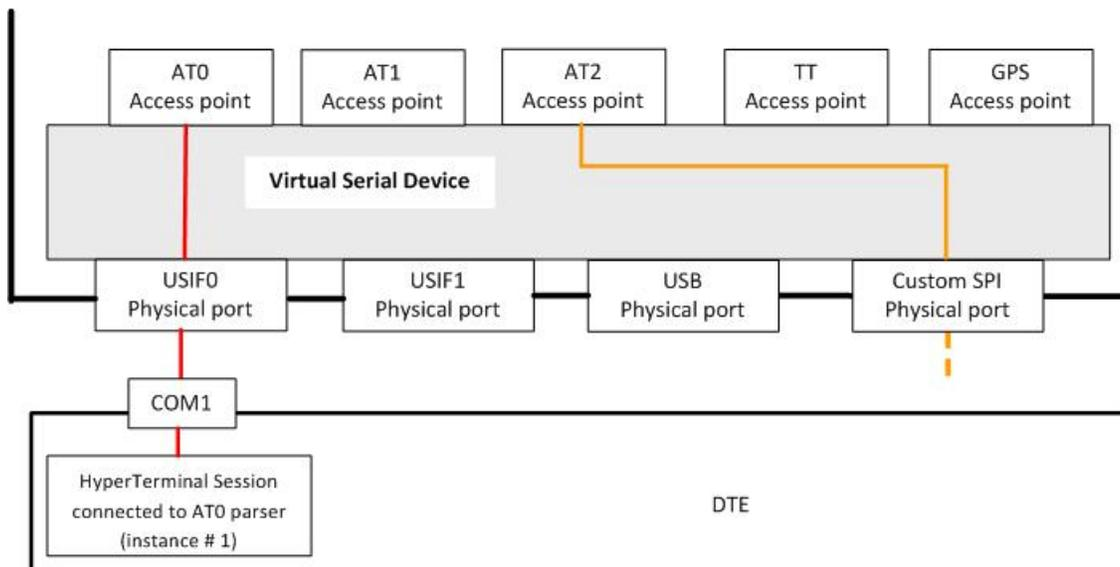
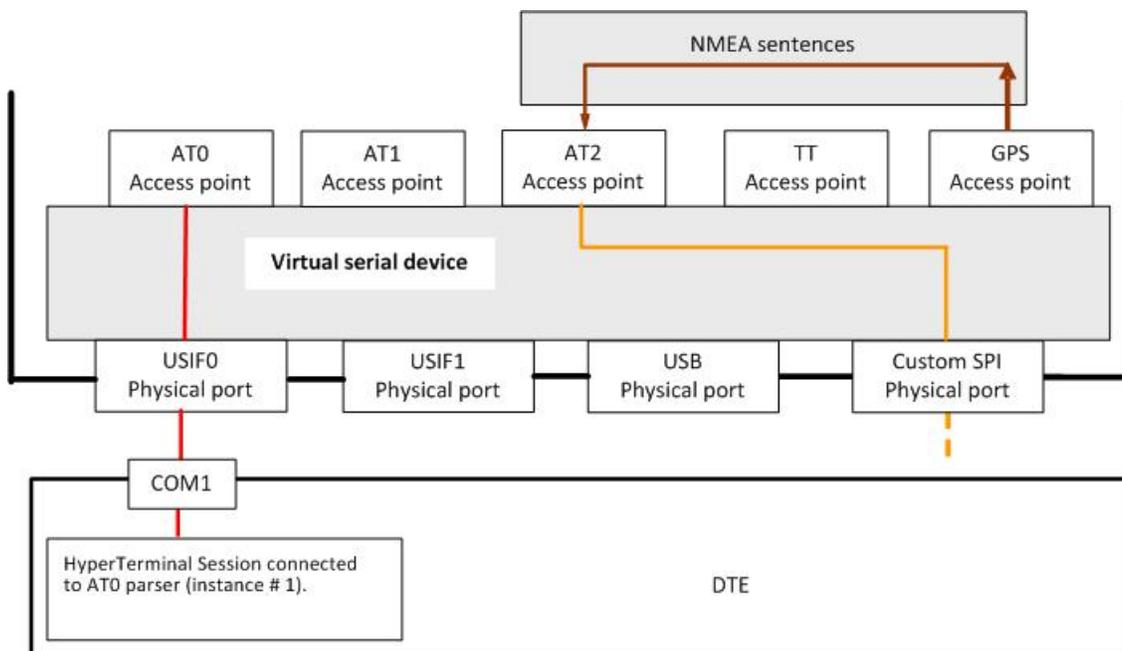

Figure 14 Factory ports arrangement
Figure 16 SPI port supports AT commands + NMEA sentences
Power on the module. The factory arrangement of the internal connections between physical ports and “access points” is depicted in Figure 14.
Assume that the module is configured as shown in Figure 14 Factory ports arrangement.
Assume that the module is configured as shown in Figure 14. You enter the AT\$GPSP=1 command through SPI port, it will be elaborated by AT2 parser and the module enters the configuration shown in Figure 16. Table 9 summarizes the new internal ports configuration.
Assume that the module is powered on and configured as shown in Figure 14 (AT#PORTCFG=0).
- Assume that you are starting from the configuration shown in Figure 14, the factory setting of #PORTCFG is 0. Refer to Table 12.